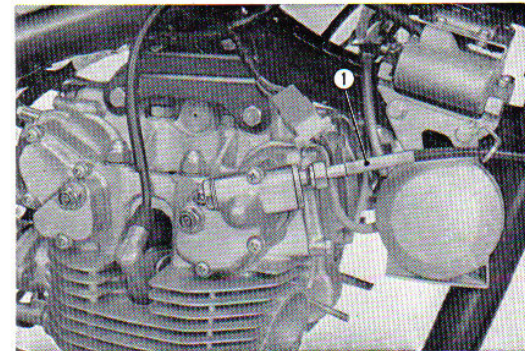

Fig. 3.7 Removing the tachometer cable
① Starting motor cable
10. Disconnect the tachometer cable at the engine. (Refer to Fig. 3.7)